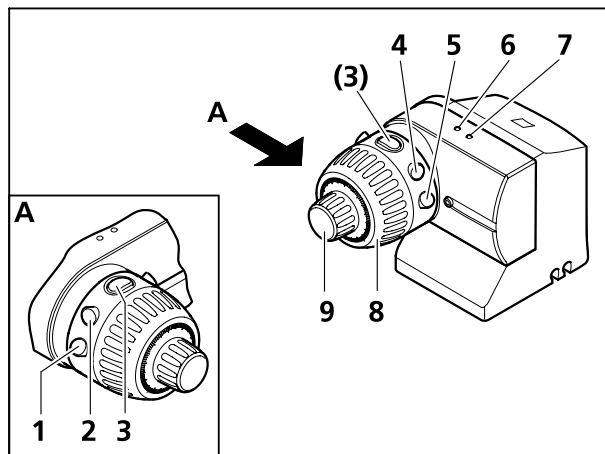

Fig. 45 MaRC control unit
- Control of focus motor by using the coarse (Fig. 45/8) and fine drive knob (Fig. 45/9).
- Travel to zoom clickstop positions by pressing briefly keys **1** and **2** (Fig. 45/1 and 2).
- Quick zooming in positive and negative directions by means of a pair of keys – long press of keys **1** and **2** (Fig. 45/1 and 2).
- Quick focusing in positive and negative directions by means of a pair of keys – long press of keys **4** and **5** (Fig. 45/4 and 5).
- Storing a focus position – key **3** (Fig. 45/3).
- Travel to the stored position – key **3** (Fig. 45/3).
- Reversing the sense of rotation of the MaRC unit – key **3** (Fig. 45/3).
If a focus motor ready for operation is connected, the blue LED (Fig. 45/7) will be lighting.
The motorized focus can be controlled quickly or slowly by turning the coarse (Fig. 45/8) or the fine drive (Fig. 45/9).
By briefly (≤ 200 ms) pressing key **1** or **2** (Fig. 45/1 or 2), the zoom body will travel to the next lower or next higher clickstop position.
By pressing key **1** or **2** (Fig. 45/1 or 2) for more than 200 ms, the zoom body will start traveling and not stop until you release the respective key or the end of travel is reached.
By pressing key **4** or **5** (Fig. 45/4 or 5), the motorized focusing system will start traveling upwards (**5**) or downwards (**4**) until you release the respective key or the end of travel is reached.
The current focus position will be stored when key **3** (Fig. 45/3) is being pressed between 2 s and 5 s.
The green LED (Fig. 45/6) briefly lighting up and **one** short beep tone on the motorized focusing system will indicate the completion of the storing process after 2 s.
When pressing key **3** (Fig. 45/3) for less than 2 s, the motorized focusing system will travel to the stored focus position.
The sense of rotation will be reversed when key **3** (Fig. 45/3) will be pressed for more than 5 s.
The green LED (Fig. 45/6) briefly lighting up twice and **two** short beep tones on the motorized focusing system will indicate that change-over has been completed.